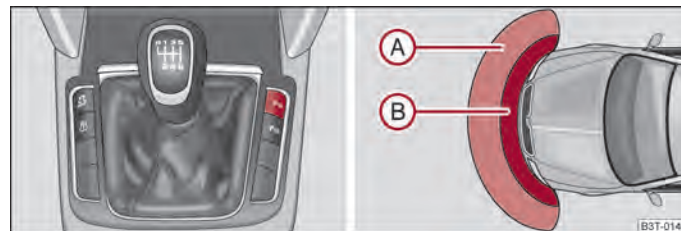

Fig. 121 Activating the parking aid/parking aid: Detection range of the front sensors
The distance warning begins at a distance of about 120 cm from the obstacle in front of the vehicle (area A ⇒ fig. 121) and about 160 cm from the obstacle behind the vehicle (area B). The interval between the warning signals becomes shorter as the clearance is reduced.
The parking aid is activated when the **reverse gear** is engaged and the ignition is switched on or by pressing the button  $\Rightarrow$  fig. 121 - left, the symbol  $P_{\text{PA}}$  lights up in the button. The activation is confirmed by a brief acknowledgement signal.
The parking aid is deactivated after pressing the button  $(P_{\text{PA}})$   $\Rightarrow$  fig. 121 or at a speed of more than 10 km/h - the symbol  $(P_{\text{PA}})$  in the button is no longer illuminated.
- If a warning signal sounds for about 3 seconds after activating the system and there is no obstacle close to your car, this indicates a system fault. The fault is confirmed additionally when the symbol  $P_{\text{PA}}$  flashes in the button  $\Rightarrow$  fig. 121. Have the fault rectified by a specialist workshop.